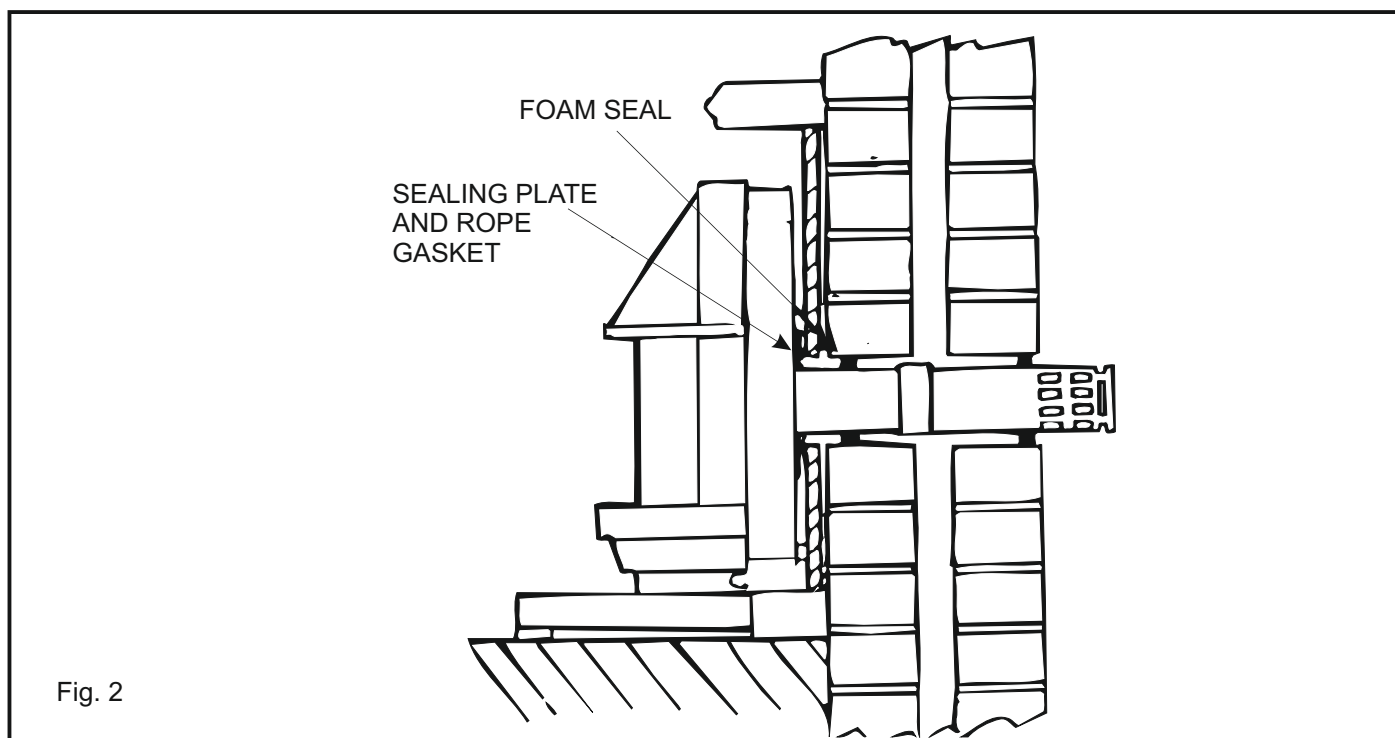

Fig. 2
- (c) **FITTING IN A FIRE SURROUND (Fig. 2):** The fire can be fitted in a compatible fire surround having a standard gas fire cut-out or with a hole 135mm diameter to accept the flue. The material of the surround must be suitable for 100 degC application i.e. marked with the suffix '100'.